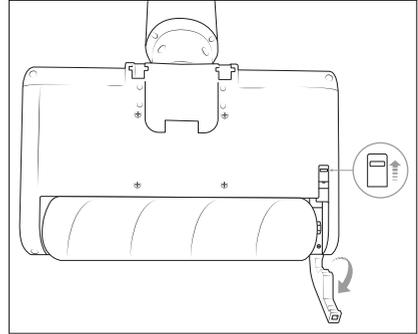

Fig. 12
- 2) Push the release on the bottom of the wiping unit **7** forwards with your finger. Then flip down the side retainer of the roller brush **12** (see Fig. 12).